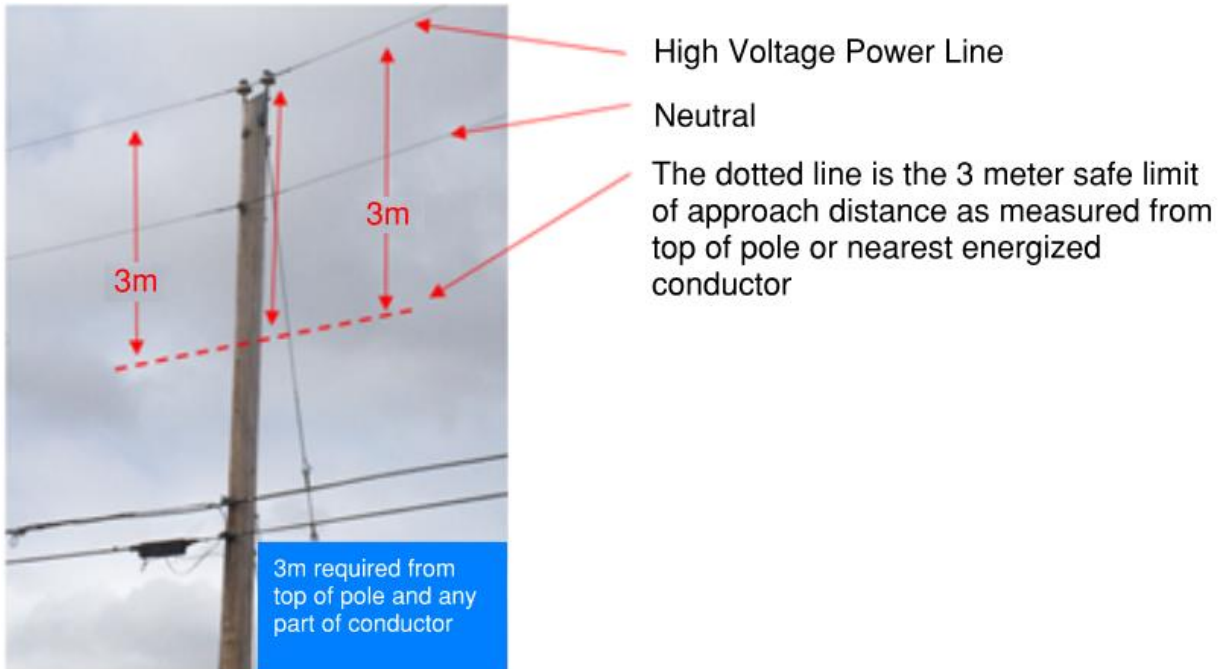
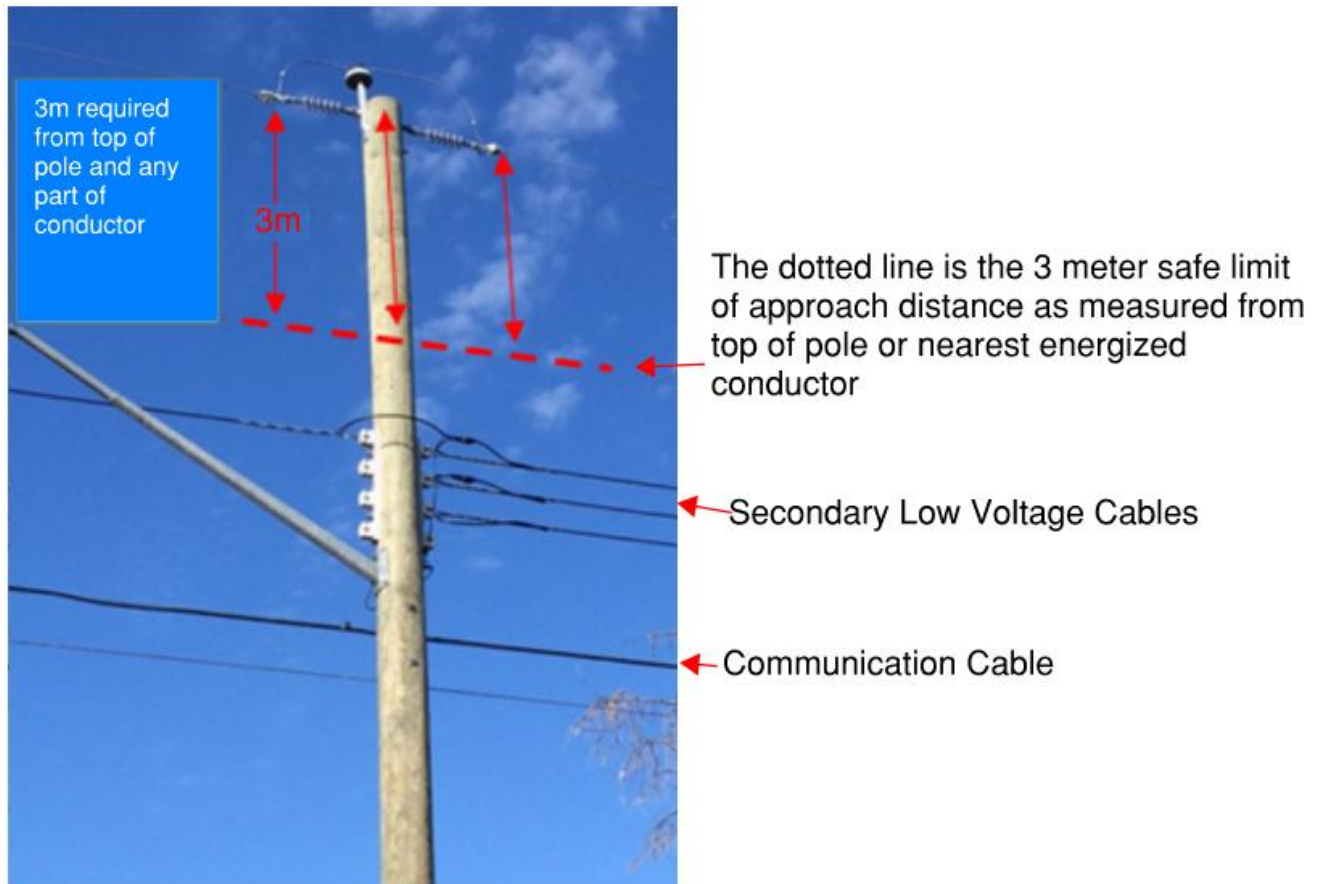

Figure 1 - Single Phase Power Line with Neutral
Figure 2 - Single Phase Power Line without Neutral
- 7.2.1. Figure 1 is a typical single phase high voltage power line with a neutral. The high voltage conductor is located at the top of the structure and the neutral below it. The distance that the neutral is located below the high voltage conductor will vary based on the year of construction and site-specific conditions.
- 7.2.2. In Figure 2, the high voltage power line is again located at the top of the pole. Unlike Figure 1, this structure has no neutral and has the addition of 3 secondary cables (voltage below 750V). Below the dotted line are the 3 secondary cables and below those cables is the communication cable. These secondary cables are normally energized at 120 V each but could be as high as 480 V. Communication workers are to stay 1 meter away from these secondary cables.